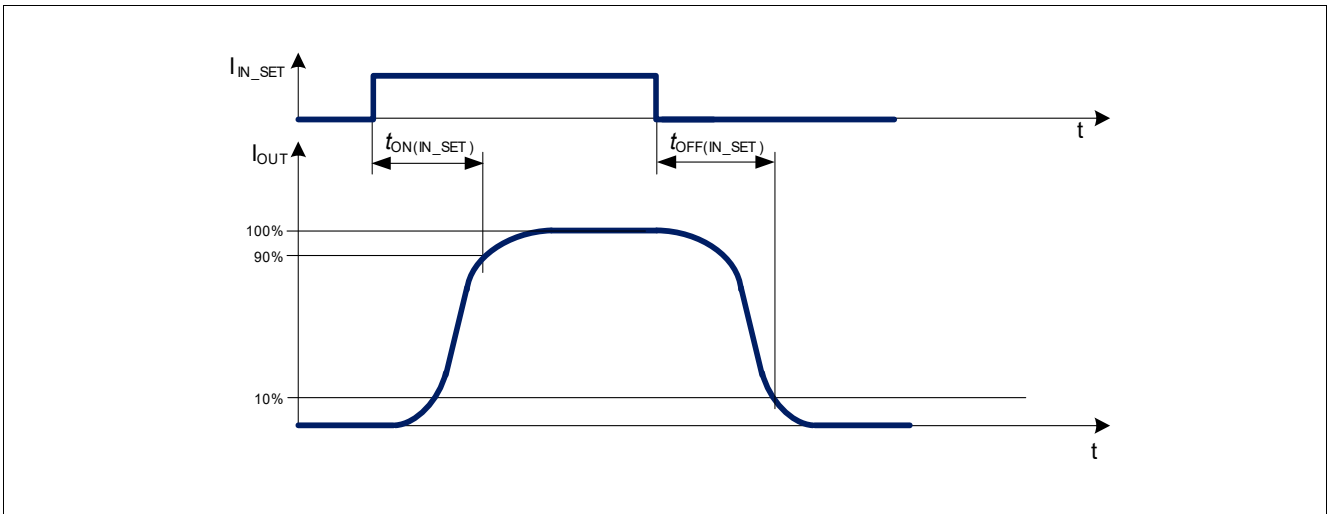
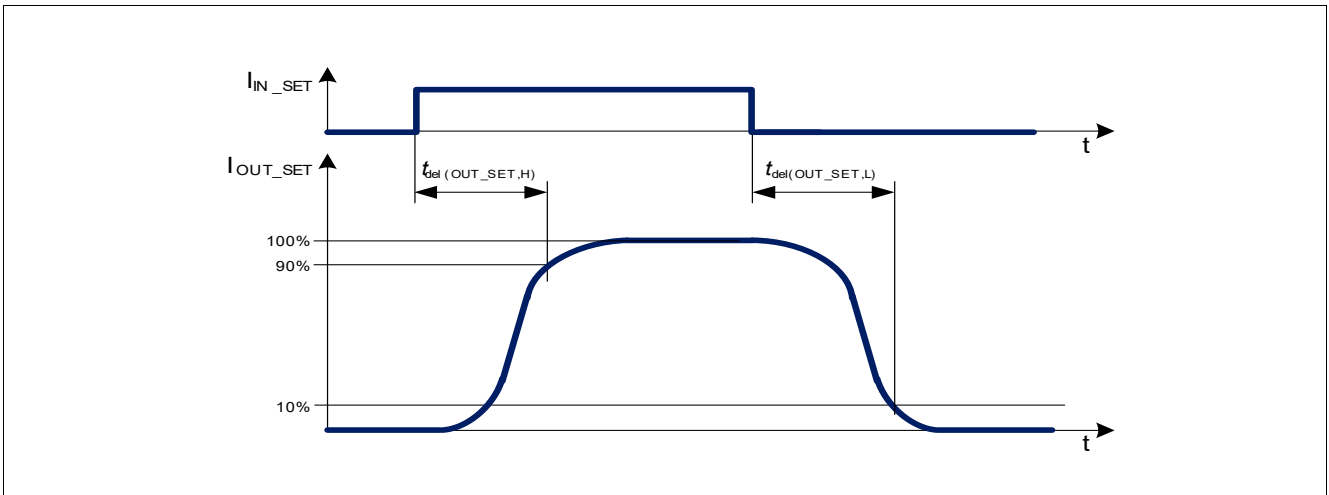
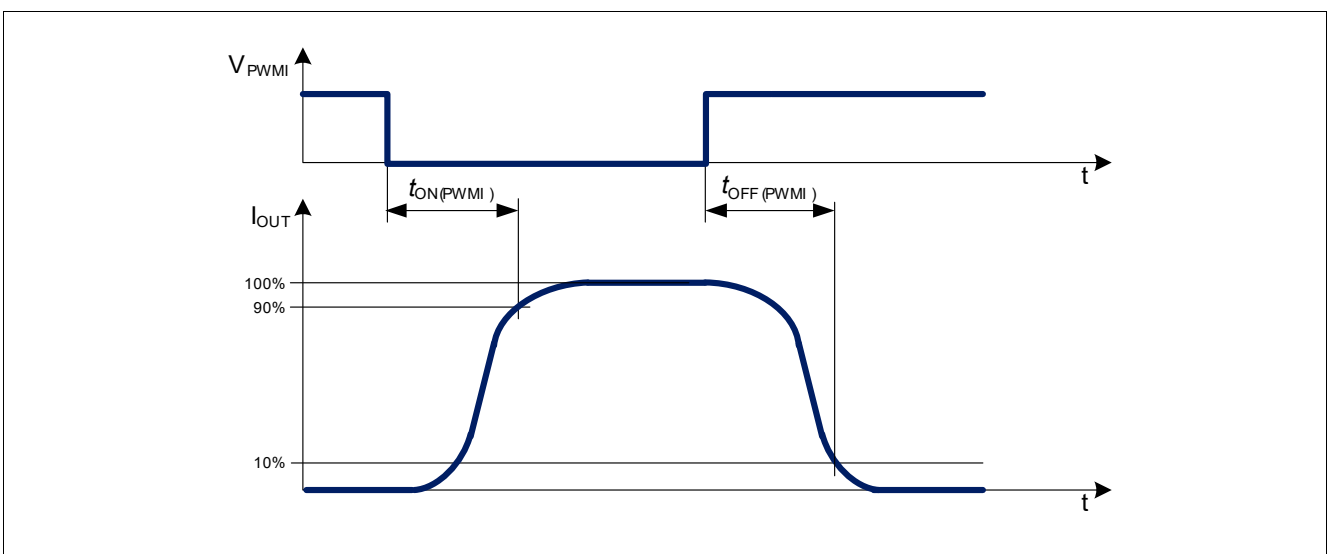

Figure 12 IN_SET turn on and turn off delay timing diagram
Figure 13 IN_SET to OUT_SET activation and deactivation delay timing diagram
Figure 14 PWMI turn on and turn off timing diagram
In the following diagrams (Figure 12, Figure 13, Figure 14) the influences of different driving inputs on output activation delays are shown.
- 2) Refer to Figure 12.
- 3) Refer to Figure 13.
- 4) Refer to Figure 14.